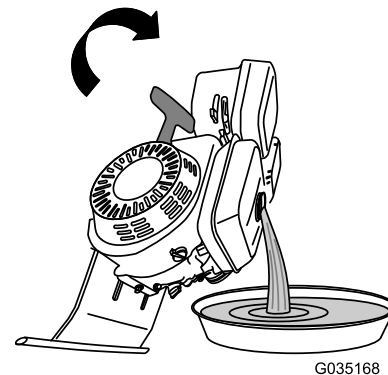

Figure 52
4. Rotate the engine on the hinge side of the engine deck and drain the fuel from the tank (Figure 52).